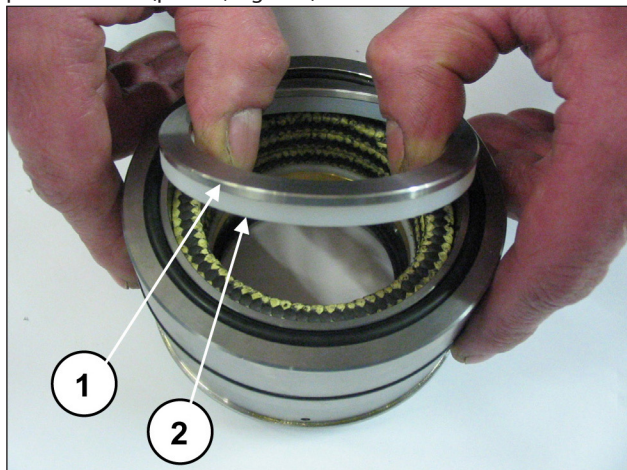
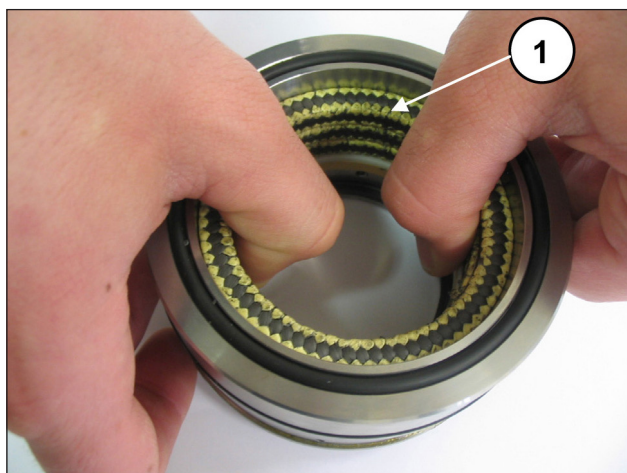

Fig. 197
Fig. 198
Separate the seal support from the liner, remove the spring ring and scraper ring (pos. ①②, Fig. 197) to access the pressure seals (pos. ①, Fig. 198).